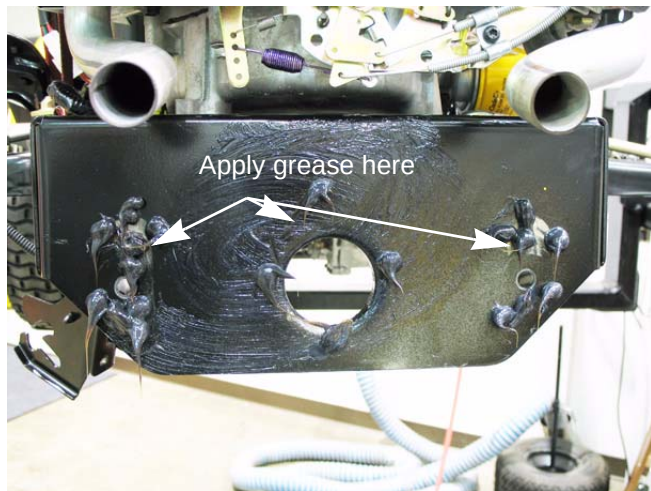

Figure 6.40
20. Apply high quality grease to the frame and the inside of the pivot bar bracket, where the pivot bar rides. See Figure 6.40.